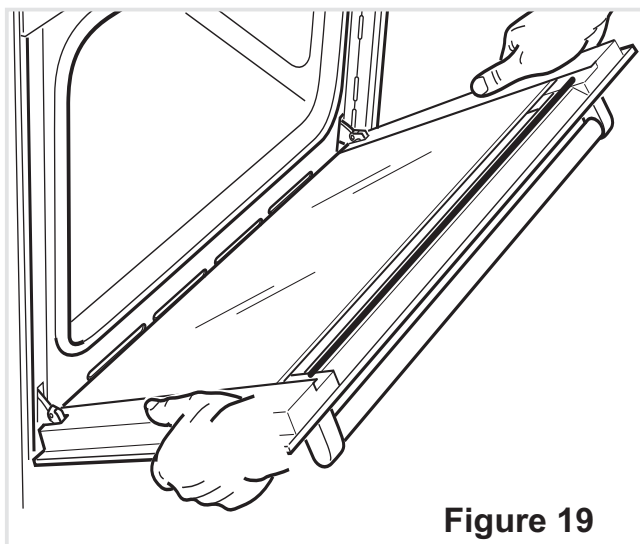

Figure 19
- Hold the door as shown in fig. 19.